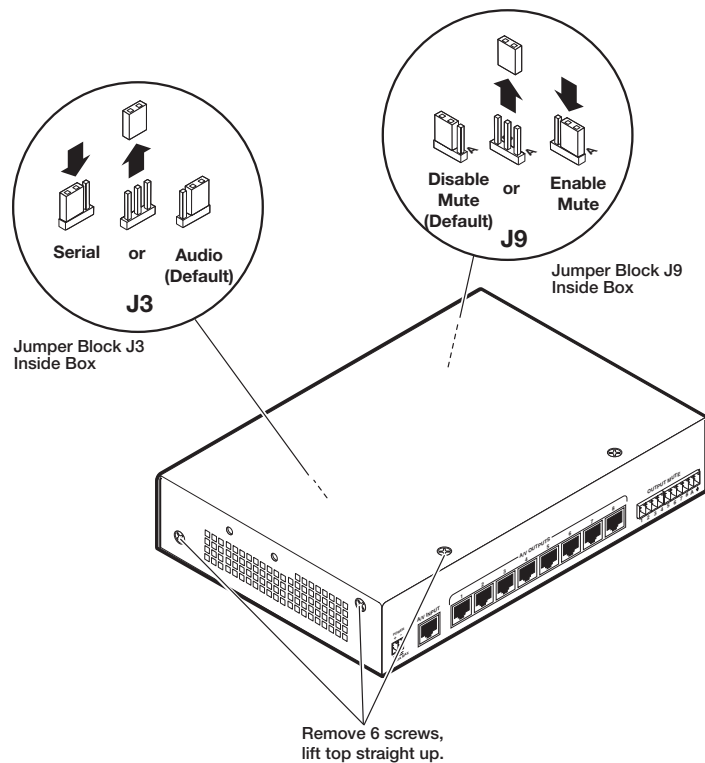

Figure 2. Opening the DA and Termination Jumpering
2. Remove the two screws from both sides of the DA and the two screws on the top (six screws total) and lift the top cover off of the DA (see figure 2).
3. **Select audio or serial distribution** — Locate jumper J3 on the main board and shift the jumper from the audio (default, on the right) to the serial (left) position (see figure 2).
4. **Enable or disable audio or serial distribution mute** — If desired, locate jumper J9 on the main board and shift the jumper from the disable mute (default, on the top) to the enable mute (bottom) position (see figure 2).